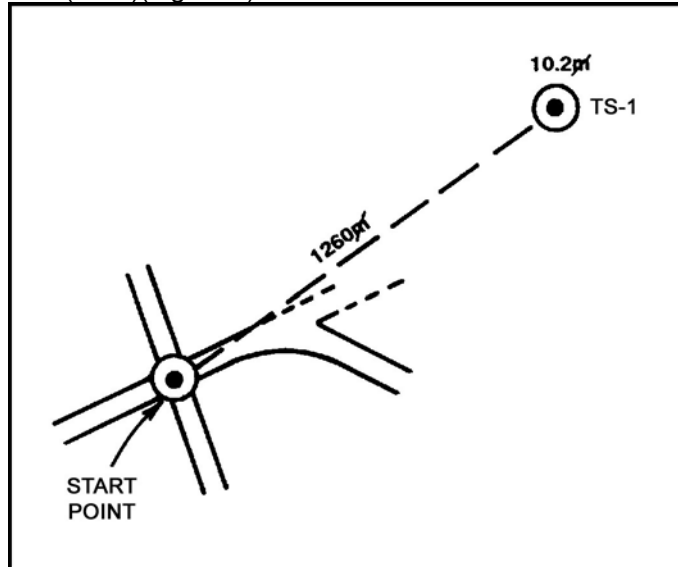

Figure 2. Start point and traverse station.
- e. With the post man again holding the post vertical on the stake, the aiming circle operator rotates the azimuth motion (upper motion) until the vertical crossline of the telescope is on the center of the post. The aiming circle operator records the azimuth to the post and labels it Traverse Station 1 (TS-1)(Figure 2).